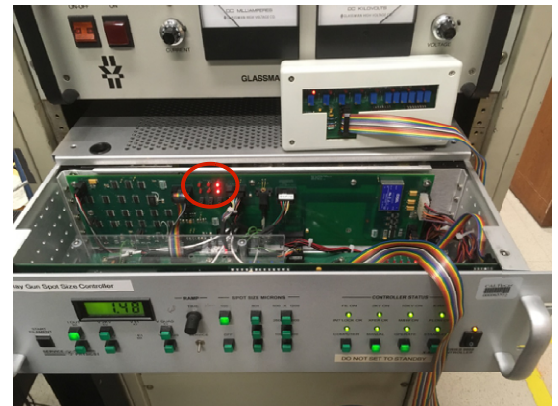
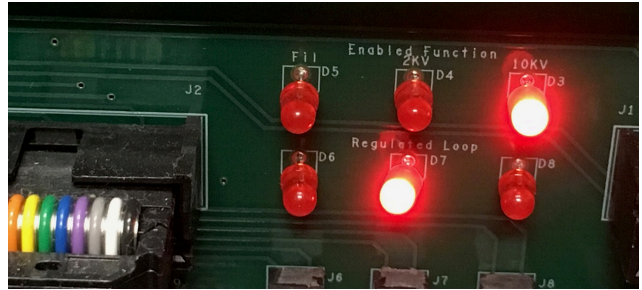

Figure 2 X-ray gun power supply with cover open and spot size control box sitting on top
Figure 3 LED indicator licks for  $I_{\text{fil}}$ ,  $I_{2\text{KV}}$ ,  $I_{10\text{KV}}$
- d. Pull the box about 6 inches out of the rack and slide the cover back, Fig 2. The red LEDs on the vertical board mounted to the inner bulkhead indicate the status of the ramps, Fig 3. LEDs 5 & 6, 4 & 7, and 3 & 8 indicate the ramp status of the filament, the 2KV, and the 10 KV, respectively. The top lights indicate that the function is enabled. The lower LED indicates the control loop is regulating  $I_{\text{fil}}$ ,  $I_{2\text{KV}}$  or  $V_{10\text{KV}}$ .